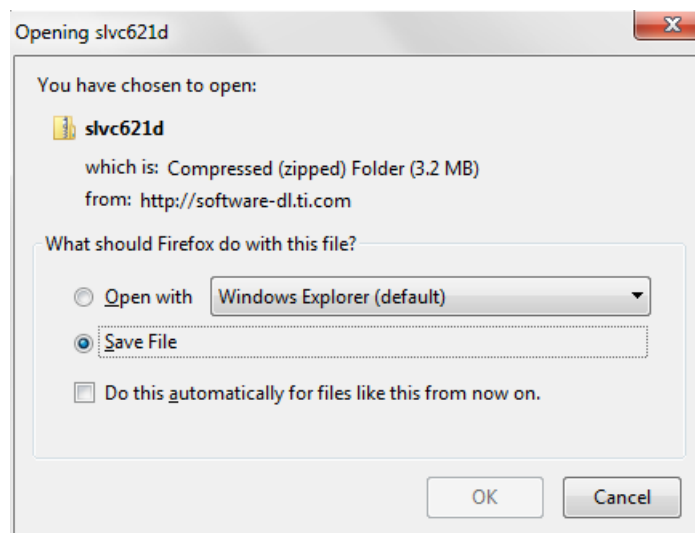

Figure 22. TPS6598x Configuration Tool Save
10. Click *Save* in the upper right corner to create the files, as shown in Figure 22 .